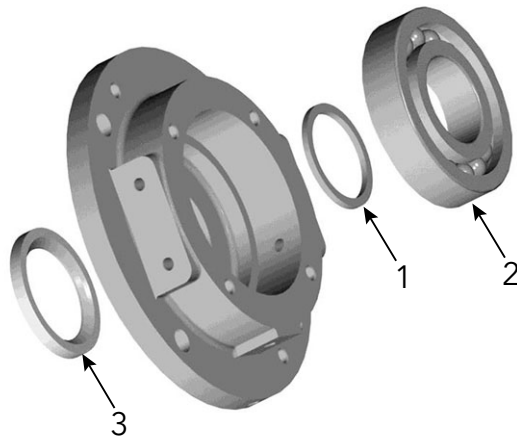

Figure 40: Bearing housing assembly order
**NOTE:** Steps 5-7 should be completed in the order demonstrated within Figure 40.